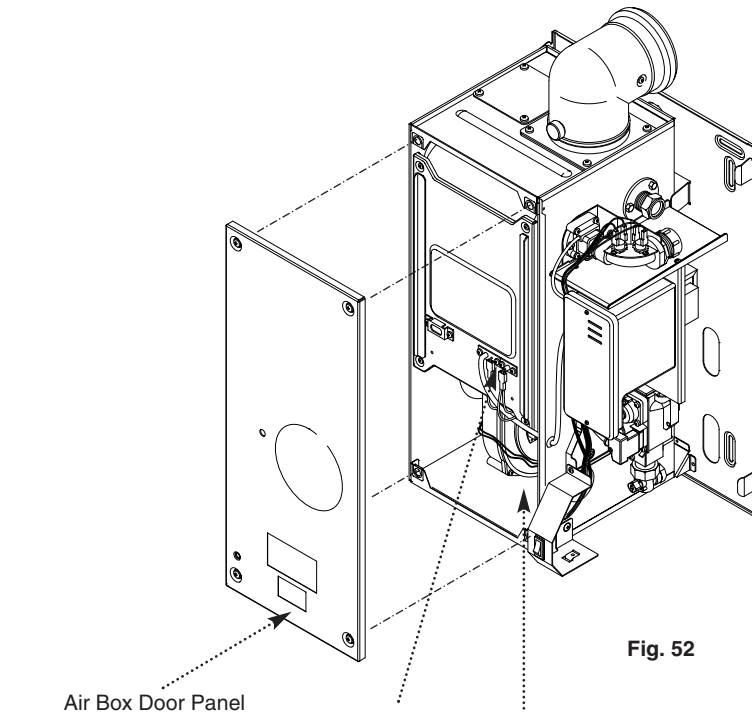

Fig. 52
1. Remove the airbox door panel by loosening the four 1/4 turn screws (Fig. 52).